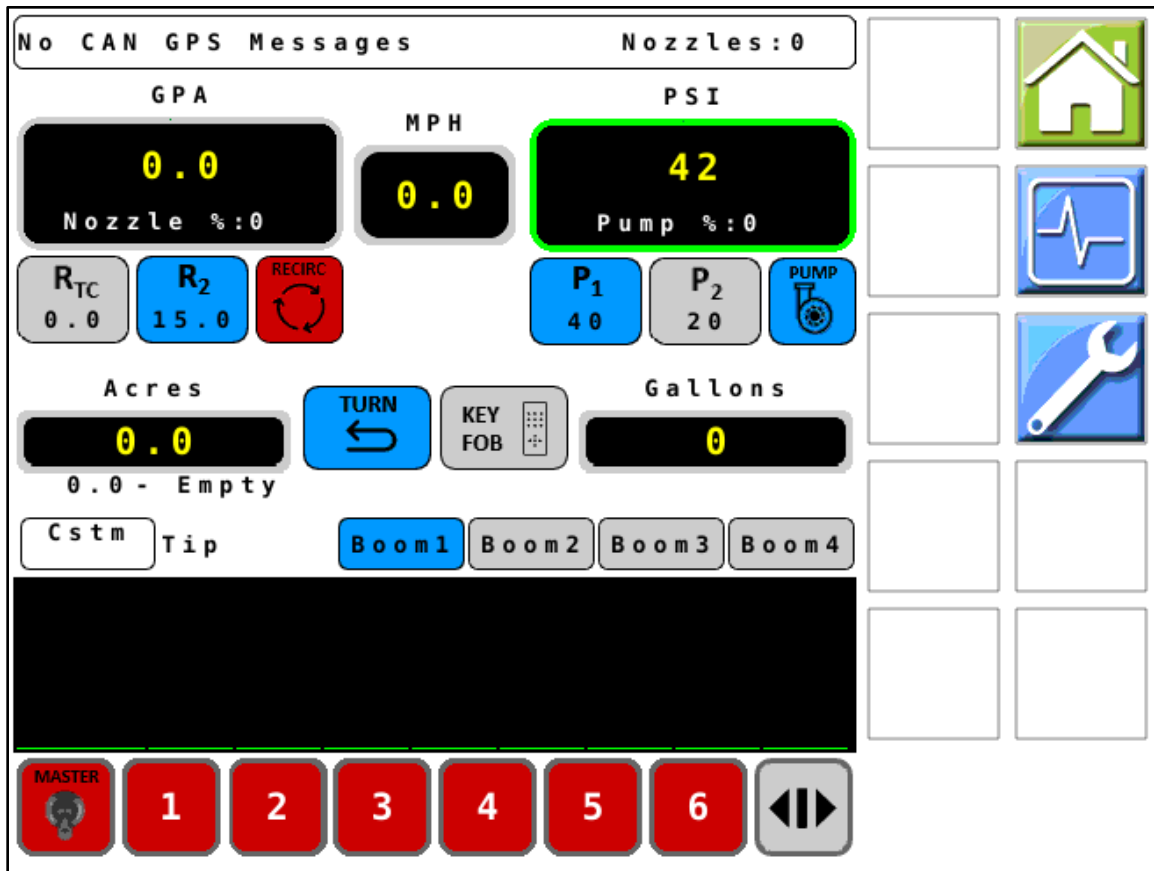

Figure 2 — PinPoint™ III Home Screen
2. *Figure 2:* Basic running settings and information are displayed on the PinPoint™ III home screen. The boom configuration can be selected from the saved configurations at the bottom of the screen. To edit these configurations and set up other features of the PinPoint™ III software, tap the **Settings** icon  at the right side of the screen.